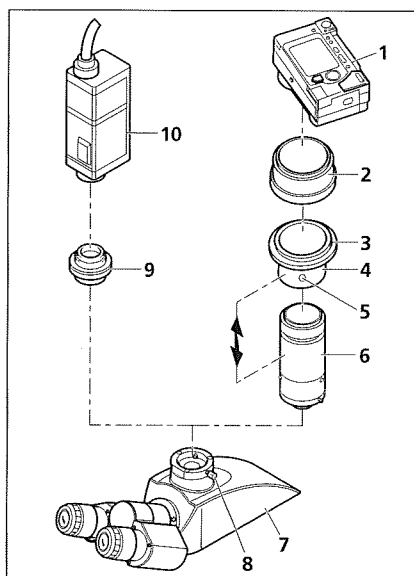

Fig. 17 Installing a camera
- First, install the photo tube (Fig. 17/7), if necessary (refer to Section 3.4.1).
- Loosen clamp screw (Fig. 17/8) and remove the dust cap from the photo tube.
- Sliding mount (Fig. 17/4), thread adapter ring M37/52 (Fig. 17/3) and lens mount (Fig. 17/6) are supplied premounted as **Digital Camera Adapter P95 M37/52x0.75**. The opposite drawing shows this unit dismantled.
- Furthermore, you may unscrew the M37/52 thread adapter (Fig. 17/3) (not shown) from the sliding mount (Fig. 17/4) so that you can also mount cameras with M37 thread.
- Mount the adapter ring (Fig. 17/2) (supplied with the camera) to the camera (Fig. 17/1) (see the operating instructions of the camera).
- Screw the unit consisting of sliding mount (Fig. 17/4), thread adapter ring M37/52 (Fig. 17/3) and lens mount (Fig. 17/6) into the adapter ring (Fig. 17/2).
- Insert the camera with adapter into the photo tube as far as it will go. Align it and fasten it with clamp screw (Fig. 17/8).
- Depending on the microscope equipment or the camera used, it may be necessary to optimize the distance between camera lens and lens mount (Fig. 17/6) (see double-headed arrow). This will be necessary in particular, if it is impossible to obtain an unvignetted image in any of the zoom positions of the camera lens. To this end, adjust the camera as follows:
- Loosen grub screw (Fig. 17/5).
- Zoom the camera lens through from wide angle (W) to tele position (T).
- Retighten the grub screw (Fig. 17/5).
Cameras with C-mount thread are to be connected to the phototube of the microscope by means of the camera adapter P95-C 2/3" 0.65x or P95-C 1/2" 0.5x (Fig. 17/9).
- Put the camera (Fig. 17/10) together with the corresponding camera adapter (Fig. 17/9) into the phototube as far as it will go, align it and fasten it by means of the clamp screw (Fig. 17/8).